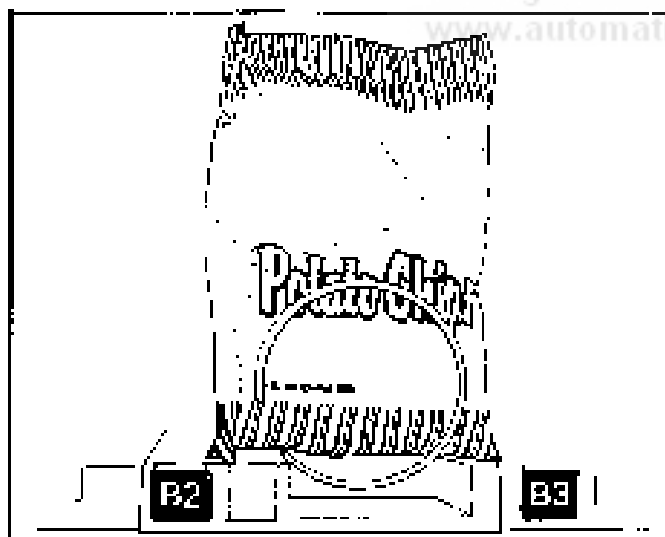

Figure 2. PLACEMENT OF PRODUCT ON MAIN PRODUCT SNACK SHELVES AND FRONT END POSITION OF SPIRAL.
**IMPORTANT:** Product must not be forced into the spiral spaces but should fit freely. If the product is too tight, use a larger pitch spiral. If a bottom of the product should be placed on top of the spiral wire that rests on the shelf and box (see Figure 2), the width of the product must be greater than the diameter of the snack spiral. If it is smaller, the product may fall through when it is in the front, ready to vend position.